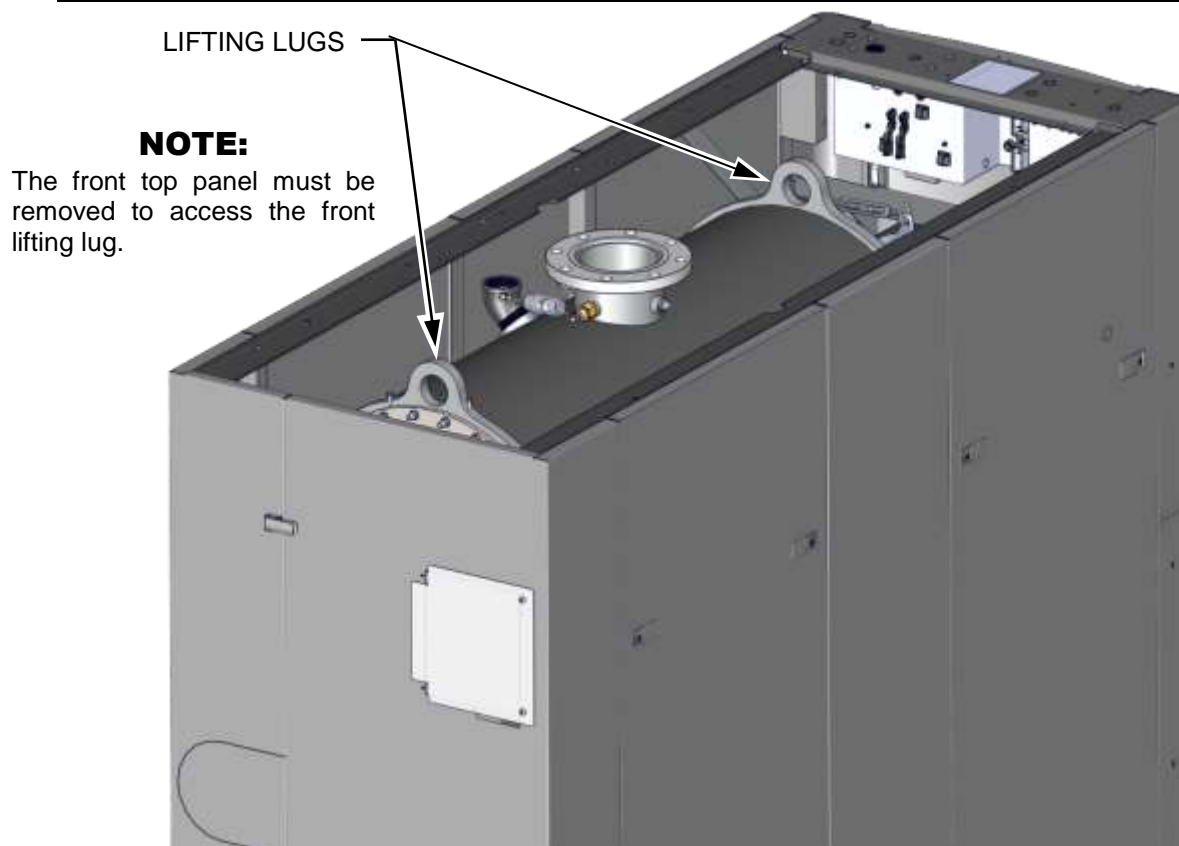

Figure 2-4: Lifting Lug Locations
Two (2) lifting lugs are provided at the top of the primary heat exchanger as shown in Figure 2-4. The location of the lifting tabs is marked on the shrink-wrap coving the unit for shipping.